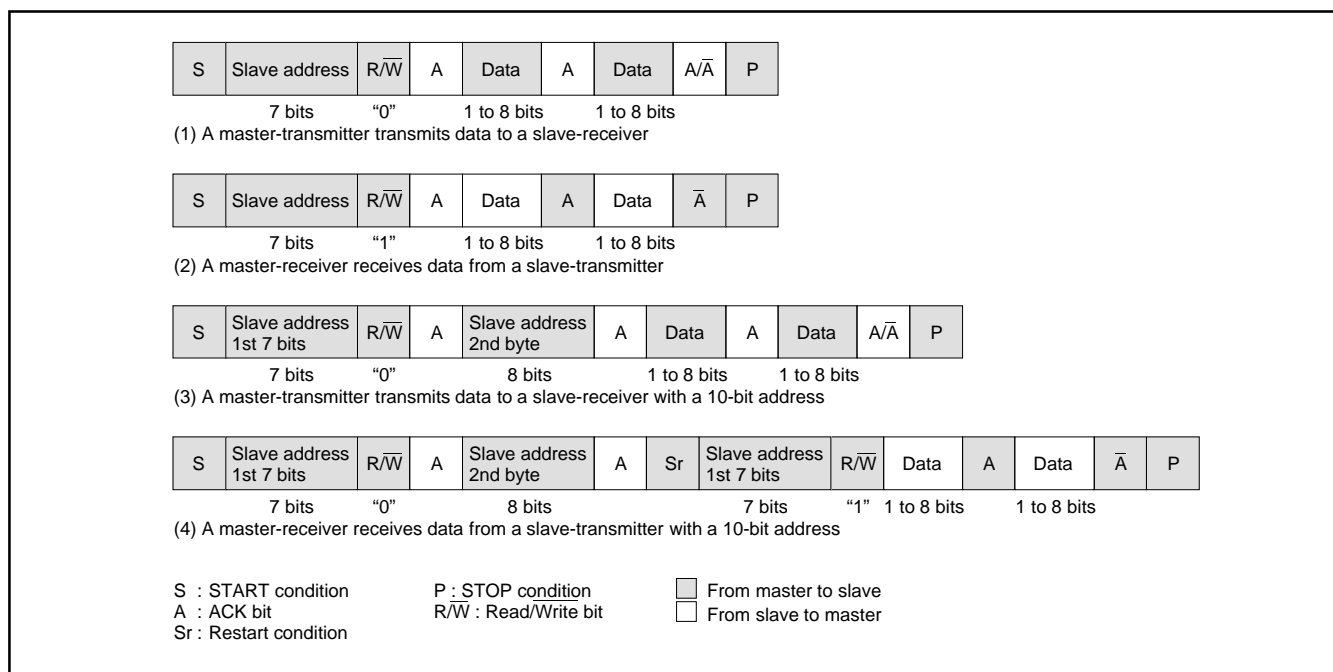

Fig. 8.6.12 Address Data Communication Format
(1) 7-bit Addressing Format
To meet the 7-bit addressing format, set the 10BIT SAD bit of the I²C control register (address 00F9₁₆) to "0." The first 7-bit address data transmitted from the master is compared with the high-order 7-bit slave address stored in the I²C address register (address 00F7₁₆). At the time of this comparison, address comparison of the RBW bit of the I²C address register (address 00F7₁₆) is not made. For the data transmission format when the 7-bit addressing format is selected, refer to Figure 8.6.12, (1) and (2).
(2) 10-bit Addressing Format
When the first-byte address data matches the slave address, the AAS bit of the I²C status register (address 00F8₁₆) is set to "1." After the second-byte address data is stored into the I²C data shift register (address 00F6₁₆), make an address comparison between the second-byte data and the slave address by software. When the address data of the 2nd bytes matches the slave address, set the RBW bit of the I²C address register (address 00F7₁₆) to "1" by software. This processing can match the 7-bit slave address and R/W data, which are received after a RESTART condition is detected, with the value of the I²C address register (address 00F7₁₆). For the data transmission format when the 10-bit addressing format is selected, refer to Figure 8.6.12, (3) and (4).